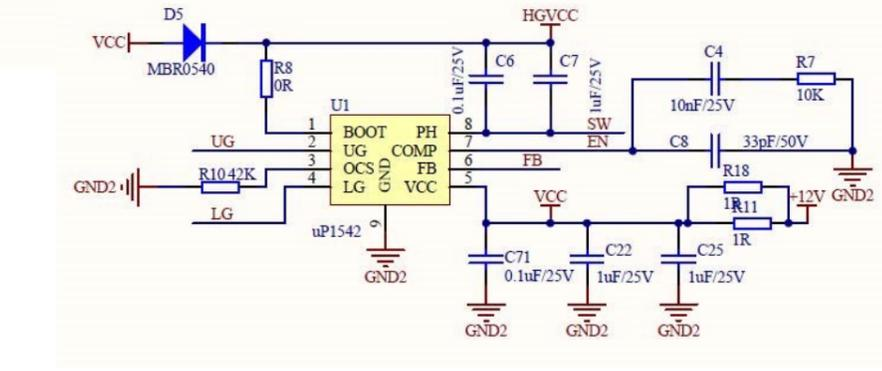
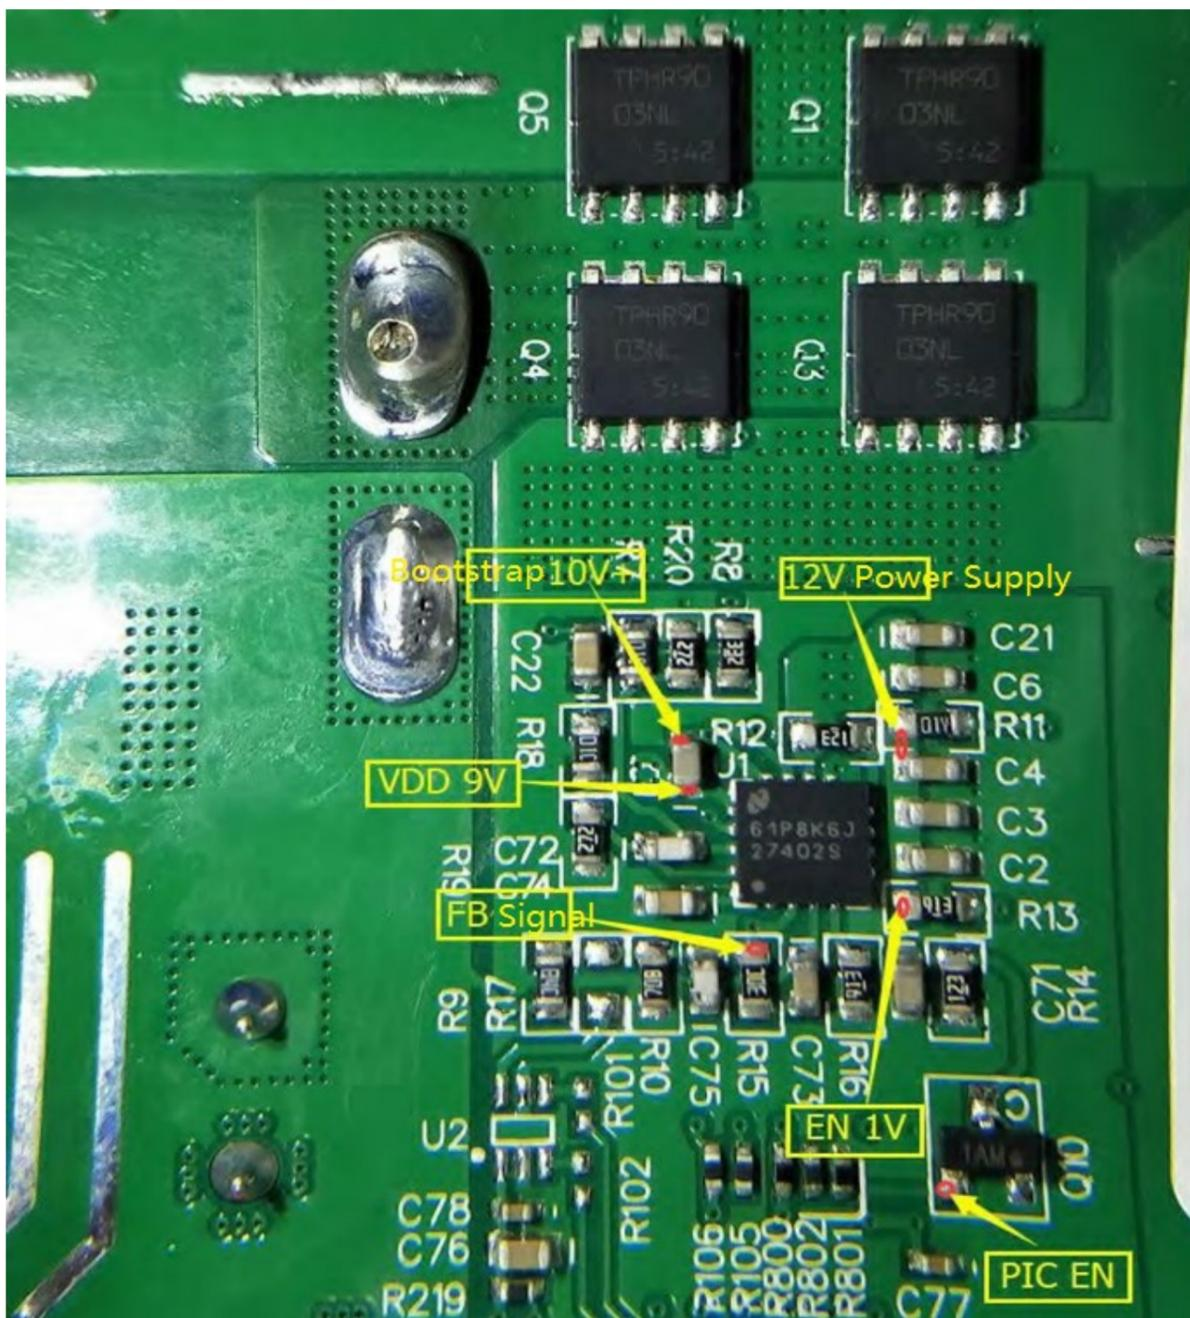

Fig 15. DC-DC Schematic Diagram
Fig 16. DC-DC Circuit
6. DC-DC Circuit: Composed of LM27402SQ and CMOS tube TPHR9003NL. See below Fig 15 and Fig 16: